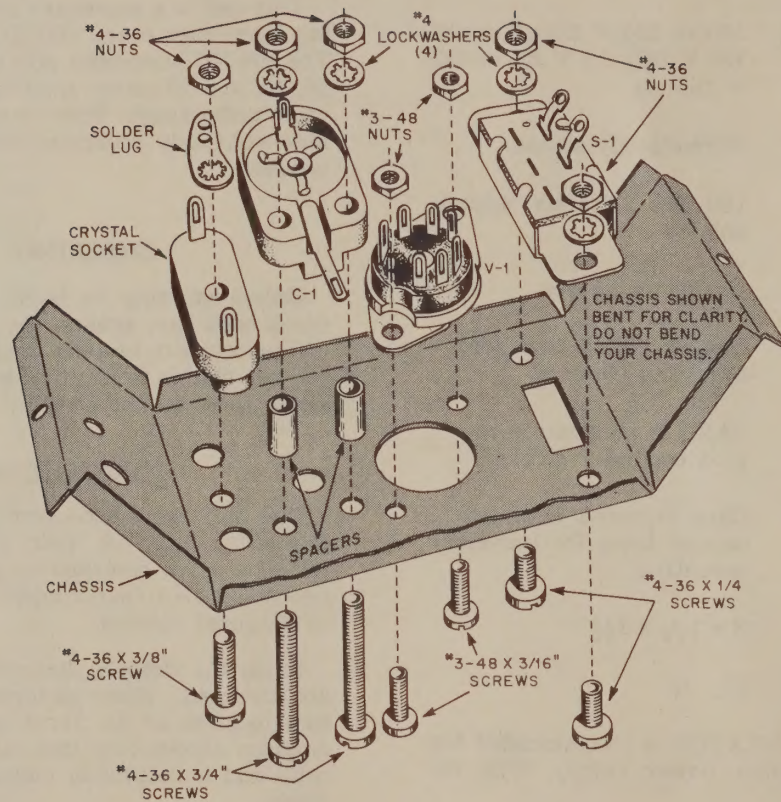

FIGURE 1. MOUNTING PARTS IN THE CHASSIS
SEE FIGURE 1.
- ✓ Mount the crystal socket as shown in Figure 1. Note that a 3/8" long screw is used to fasten the socket, and a solder lug is attached to the socket by the mounting nut.
- ✓ Mount C-1, the 7-45 μmf trimmer capacitor in the position shown in Figure 1. Be sure it is right side up. Note the metal spacers used with the two 3/4" long screws.